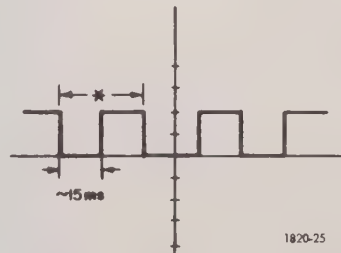

Figure 4-1. The print-command pulse.
c. Connect the oscilloscope probe to pin A2 of the DATA OUTPUT socket and the oscilloscope ground to the low input terminal of the Type 1820-P2. The display shown in Figure 4-1 should appear. The pulse period (*) should be about 33 ms ±20%.